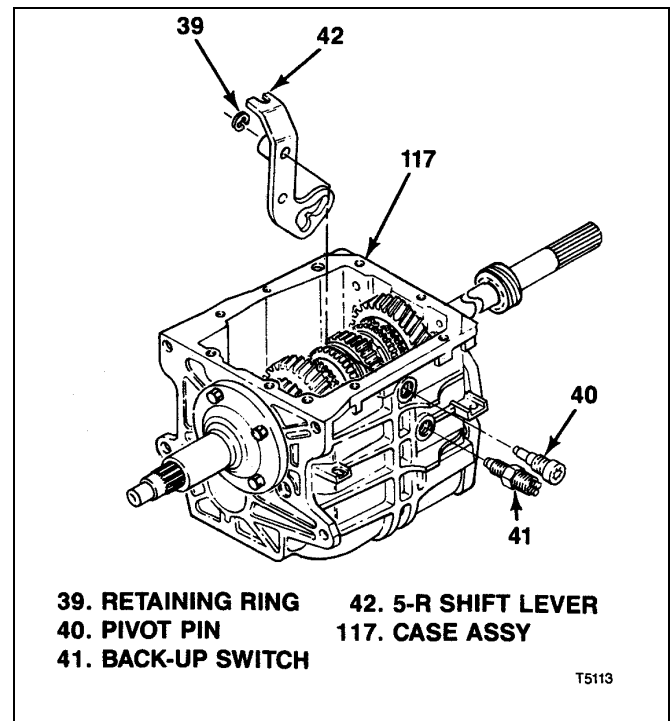
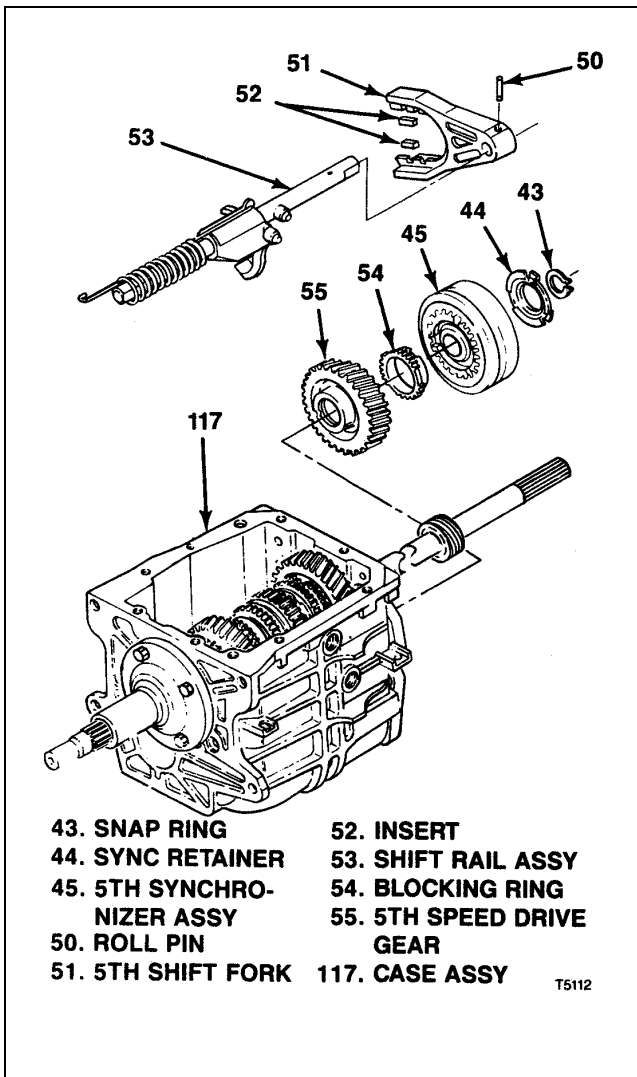

Figure 3-5. T5 WC 5-R Shift Lever
Figure 3-6. T5 WC 5th Synchronizer Shift Fork and Gear
**3-11. REMOVAL OF T5WC 5-R SHIFT LEVER** (see figure 3-5).
- a. From inside transmission assembly, remove retaining ring (39).
- b. From outside transmission, remove pivot pin (40) and back-up switch (41).
- c. Work 5-R shift lever (42) out of engagement and lift out top of transmission case (117).
**3-12. REMOVAL OF T5 WC 5TH SYNCHRONIZER SHIFT FORK AND GEAR.** At rear of transmission case (117), remove parts as follows (see figure 3-6):
- a. Remove snap ring (43) and 5th synchronizer retainer (44).
- b. Simultaneously pull 5th synchronizer assembly (45) and 5th shift fork (51) with attached shift rail assembly (53),
- c. To separate 5th shift fork (51) and shift rail assembly (53), drive out roll pin (50). Remove inserts (52) from fork.